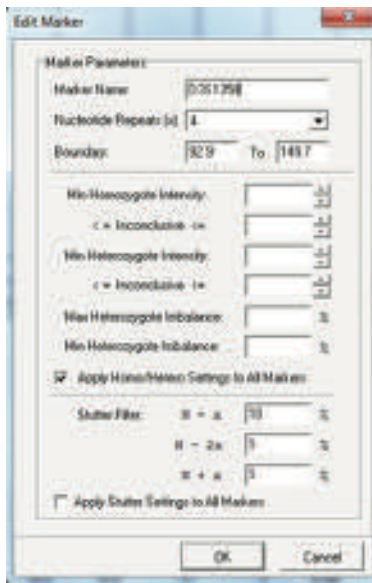

Figure 23. The GeneMarker® HID Edit Marker window for the D3S1358 marker.
- Use the Panel Editor in the Tools menu to select a PowerPlex® Fusion 6C panel. Click on the plus symbol to expand the list, right click on a marker, and then select “Edit”. Enter laboratory-specified values for Min Homozygote Intensity, Min Heterozygote Intensity and Min Heterozygote Imbalance (Figure 23). This will set values for peaks within the marker range.